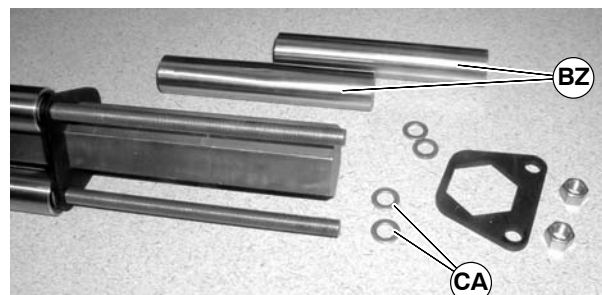

Figure 60
7. Remove pulleys (BZ of Figure 60) and additional washers (CA).